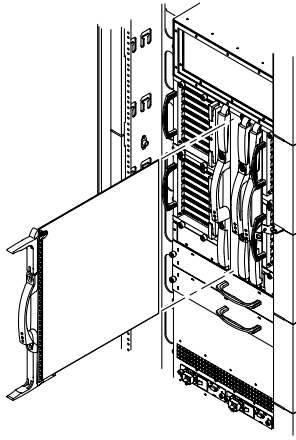

FIGURE 11-6 Removing and Replacing a Repeater Board—Sun Fire 6800 System
5. Remove the board from the card cage by grabbing the handle and sliding the board along the track until the board is out of the card cage (FIGURE 11-6).
3. Gently insert the Repeater board into the grooves of the proper slot (see TABLE 11-1 on page 11-3 for slot locations) until the board stops (FIGURE 11-6).